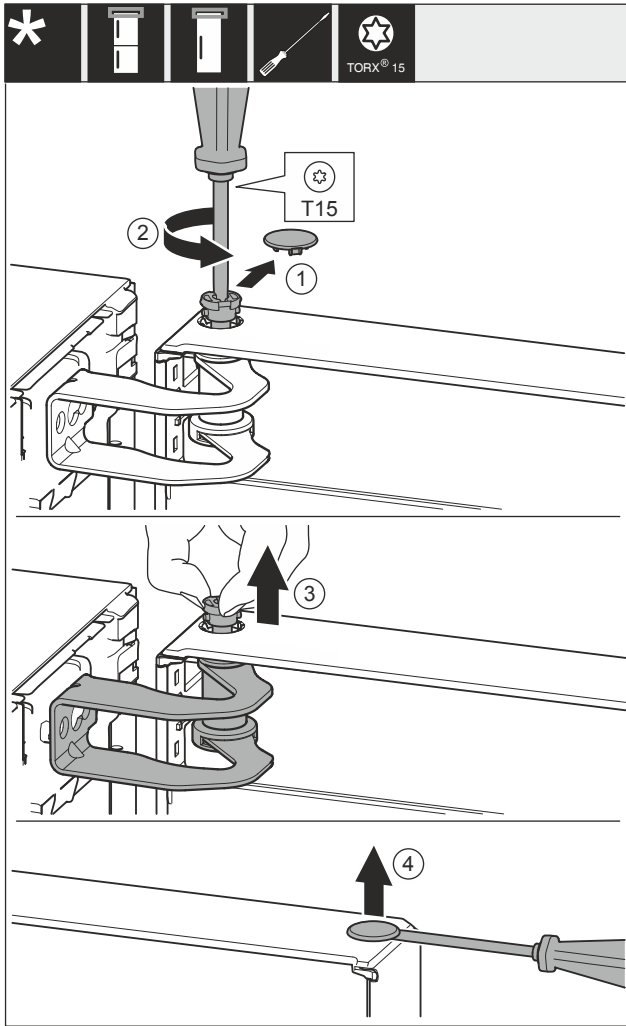

Fig. 10
- ▶ Carefully remove the cover Fig. 10 (1).
- ▶ Use screwdriver to loosen the bolts Fig. 10 (2) a little.
- ▶ Pull out the bolt Fig. 10 (3) with your fingers.
- ▶ Carefully lift and remove the cover Fig. 10 (4) with a screwdriver.